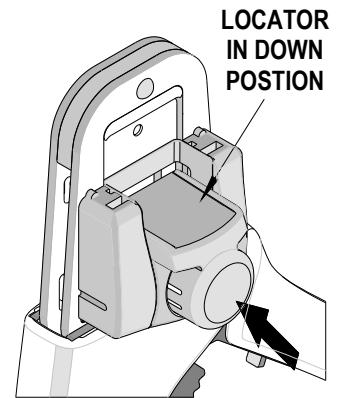

Figure 2 LOCATOR IN DOWN POSITION
2. Make sure the center of the locator is in the down position. With the locator attached, push the locator button on the back of the hand tool to bring the locator forward through the tooling. See Figure 2.